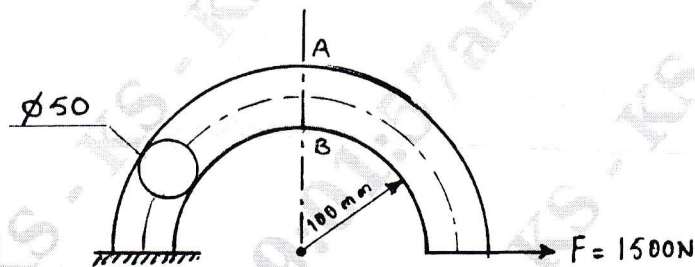

Fig.Q1(b)
b. Determine the maximum tensile stress of the machine component shown in Fig.Q1(b) and indicate the location.